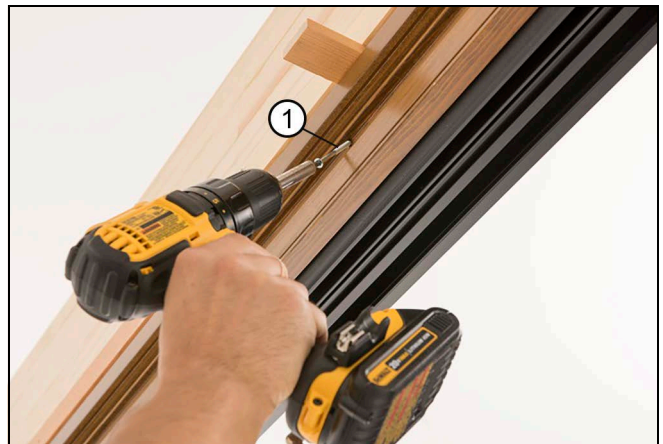

Figure 36
6. Fasten the head jamb support block through all pre-drilled holes. See Figure 36.